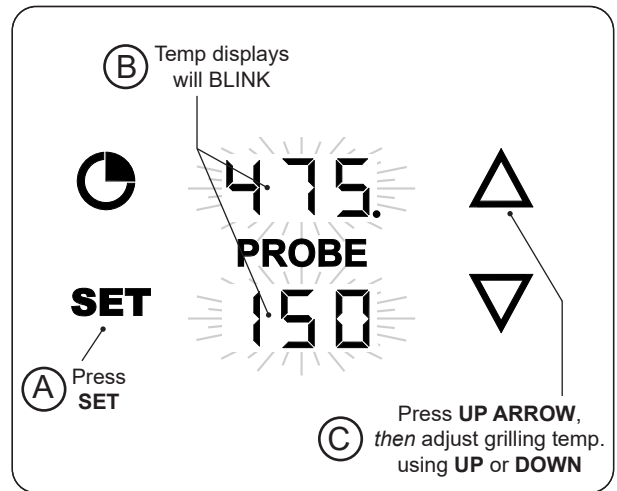

Fig. 34-1 Set grilling temp.
1. With the thermometer/thermostat **on**, press the **SET** button once. The grilling and probe displays will blink. (While blinking, either area can be selected to enter their settings.) See Fig. 34-1, A and B.
2. Press the **UP ARROW** to select the grilling temp settings, then use the up or down arrows to set the desired temp. (Fig. 34-1, C).